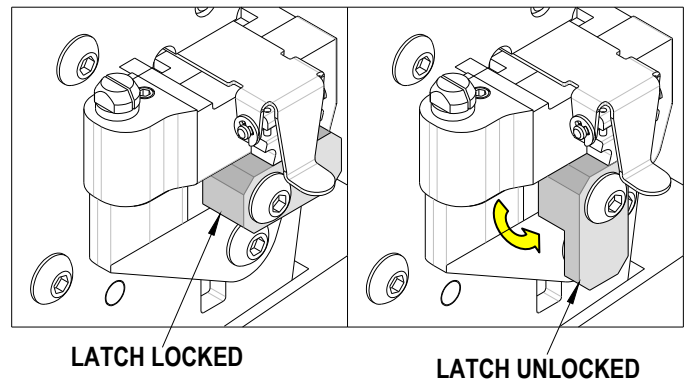
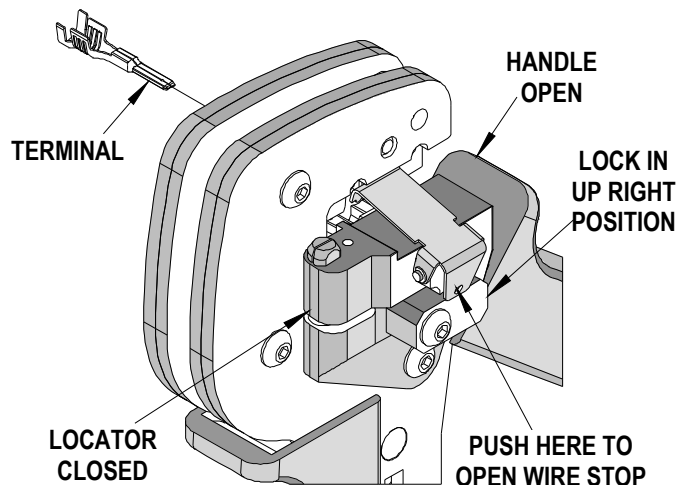

Figure 3
Figure 4
3. Swing the terminal locator away from the crimp tool shown in Figure 3. Some terminals with large insulation grips may interfere with the crimp tooling when swinging the locator into position. The terminal must then be loaded into the locator in the closed/crimp position. See Figure 4.
4. Press down on the wire stop on the locator as shown in Figure 3. Insert the proper terminal into the proper nest opening. Make sure when choosing the nest opening, it will correspond with the 8 profile on the hand tool.